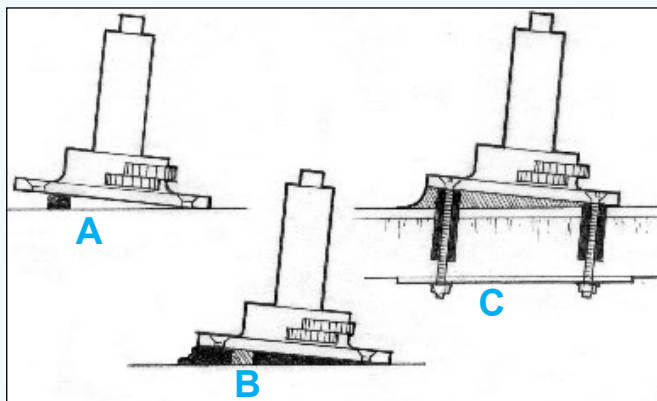

Figure 19 Support the base in position with blocking - apply enough thickened epoxy to fill the void.
2. Bond small blocks to the substrate to support the base at the desired height and position (e.g., *winch base, Figure 19"A"*).
4. Place the hardware in position, resting on the blocks (*Figure 19"B"*) and install the fasteners.
5. Smooth the excess epoxy into the desired fillet shape around the base (*Figure 19"C"*). Allow the epoxy to cure fully before loading. Protect exposed epoxy from UV. (see *finish coating page 29*).